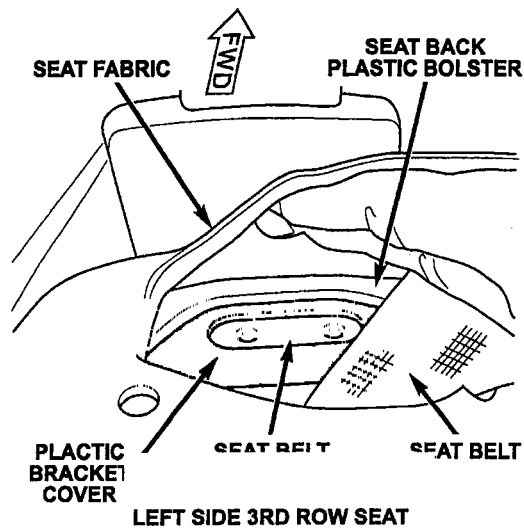

Figure 3 – LEFT SIDE SHOWN
7. Slide the plastic bracket cover rearward and tuck the front corners of the plastic bracket cover underneath the seat back plastic bolster as shown in Figure 3.
33. Install seat belt bracket cover (PN CEC0F040) over the retractor retainer bracket (Reference Figure 3).